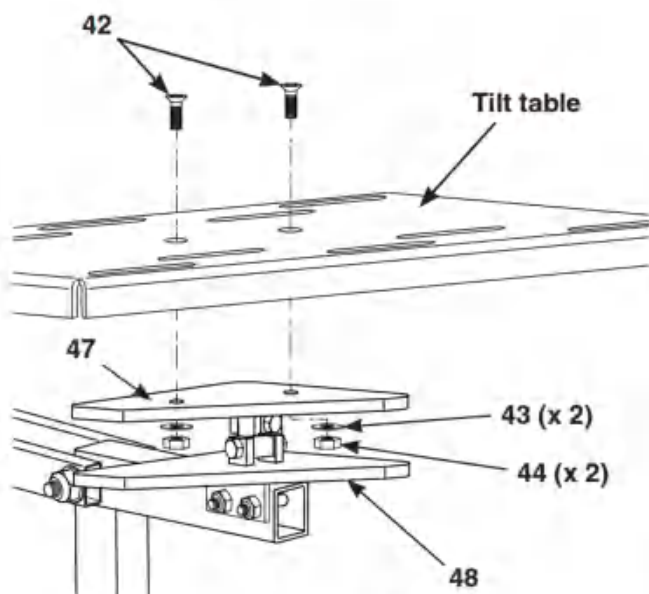

Figure 14
21. Place the tilt table on the mounting plate (47) as shown below. **See Figure 14.**
22. Connect tilt table to mounting plate using two socket head (flathead) screws (42), two washers (43) and two nuts (44). Torque to 450 - 550 in. lbs. **See Figure 14.**